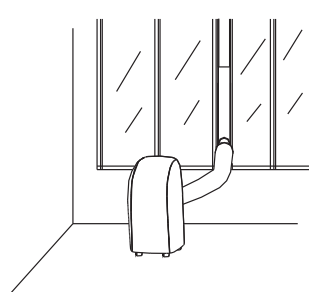

Fig. 11
12. Whole unit assembly well as Fig11 drawing illustrated.